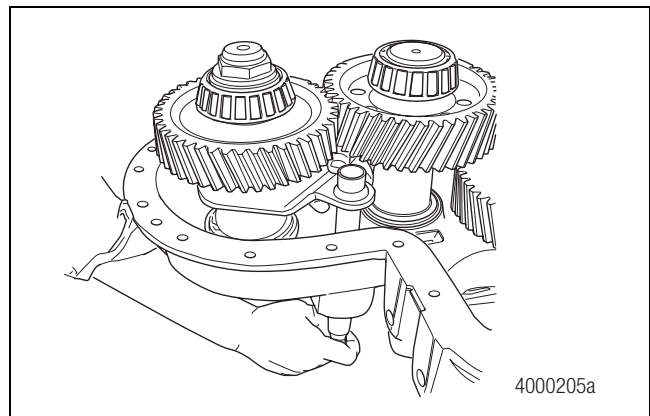

Figure 6.3
5. While holding the shift fork and clutch collar in place, insert the push rod through the case and through the stamped shift fork. Figure 6.3.